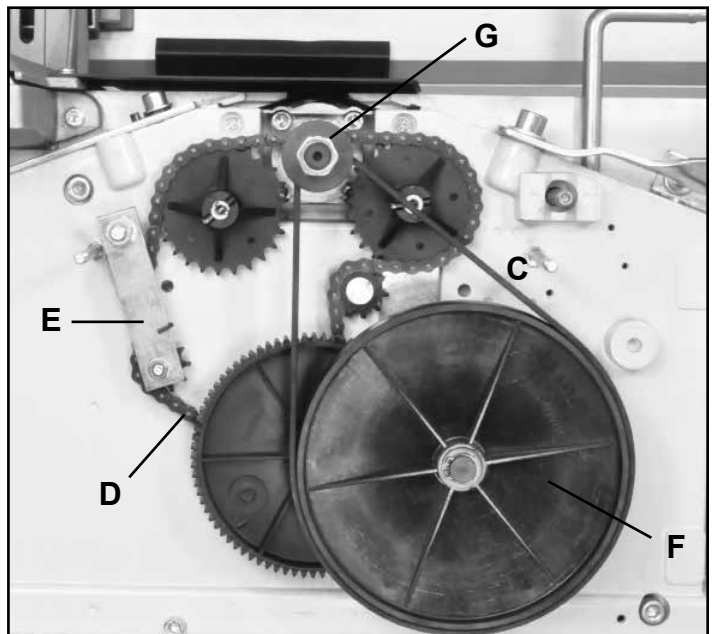

FIG. 28
6. The *Feed Roller Belt* (#256, FIG. 28, C) requires no adjustments. Its elasticity automatically applies tension.
7. The *Feed Roller Chain* (#248, FIG. 28, D) is automatically tensioned with the Spring Assembly (#246, 247, 249, E) and requires no adjustments.
2. To replace the *Feed Roller Belt* (#256, FIG. 28, C), simply stretch the elastic belt and position it over the large, Flat Belt Pulley (#257, F), then the Cutterhead Shaft (G).